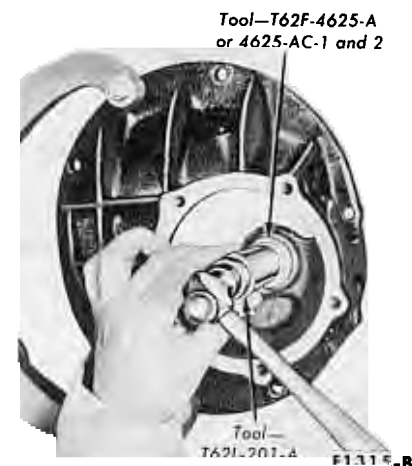

FIG. 41—Installing Pilot Bearing
2. Drive the new bearing in until it bottoms as shown in Fig. 41. On cars with high performance engines,